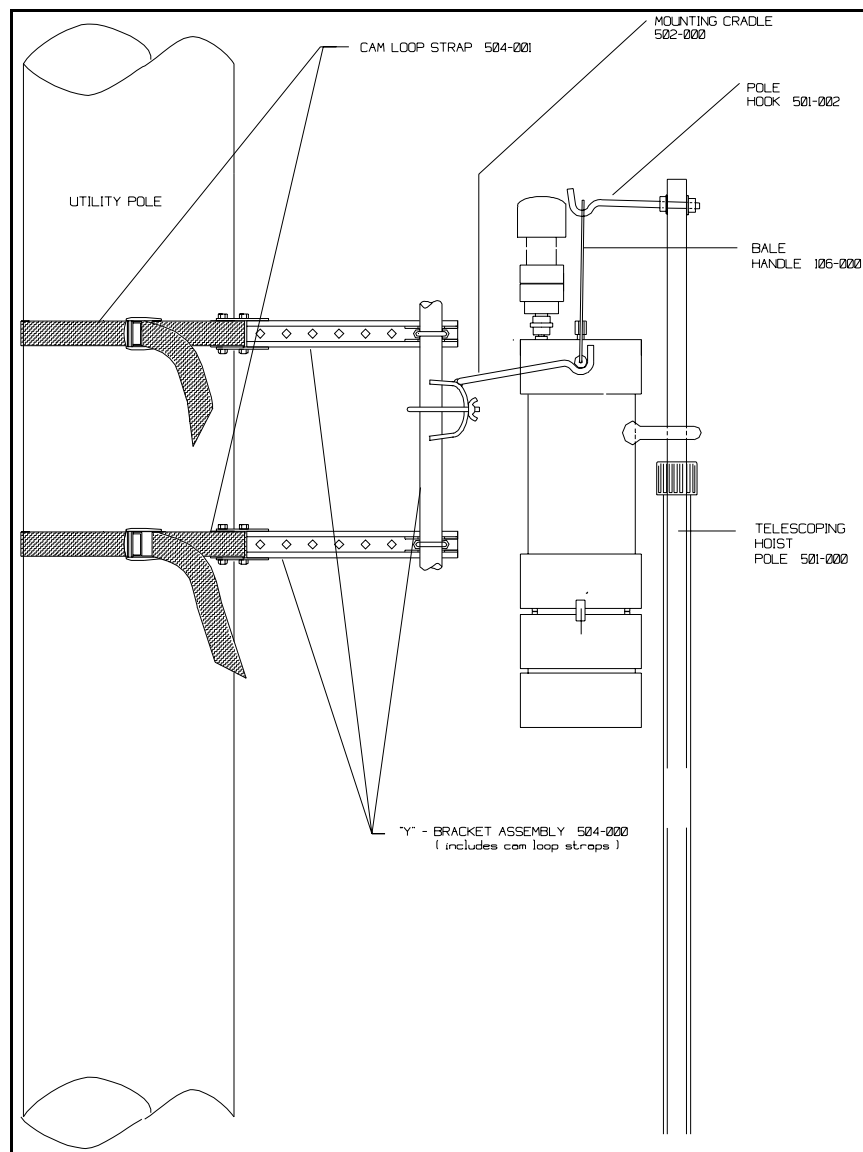

Figure 4.1. Mounted Sampler
The MiniVol Mounting Cradle is designed to mount onto a standard 1 1/4 inch antenna mast or comparable metal tubing (not supplied with the sampler). The mast should be strapped securely to some other suitable structure—utility pole, parking meter, fence post, *etc.* (See Figure 4.1). Available separately from Airmetrics is a Y-Bracket Assembly which attaches to poles and provides a mast for the mounting cradle. (Also shown in Figure 4.1).
13. Using the hoisting pole, hook the bale assembly bar and raise the sampler, as vertically as possible, to the mounting cradle. This position not only more easily accommodates the sampler's weight, but prevents the hook from hitting and possibly dislodging or breaking the preseparator/filter holder assembly. (See Figure 4.1).
1. Remove the sampler from the mounting cradle using the hoisting pole. Position yourself directly under the sampler, hook the bale assembly bar, and lower the sampler as vertically as possible. This vertical take-away not only accommodates the sampler's weight, but prevents the hook from dislodging the rain cap or damaging the preseparator/filter holder assembly (see Figure 4.1).